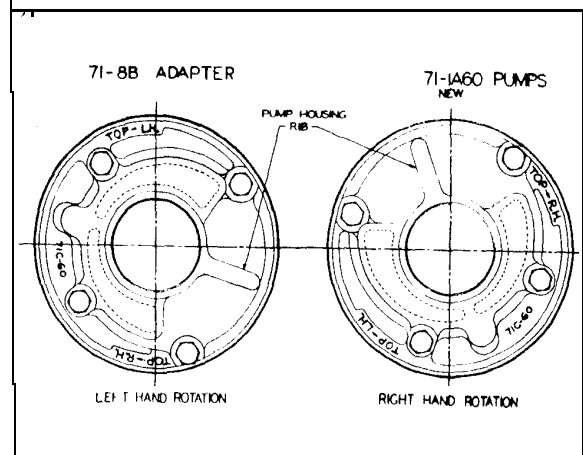

Fig. 98 Orientation Markings for New 71-1A60 Pump Assembly on 71-8B Adapter
- (b) Orientation of pump mounting bolt holes and direction of rotation arrow, depending on desired direction of input rotation, (Fig. 98 or Fig. 99).
The newer pump assembly with backing plate, identified by the rib on the pump housing, will be properly mounted when the marking on the pump housing appears as shown in (Fig. 98), when mounted on the 71-8B adapter, (Fig. 89). If the same pump were mounted on the new adapter 71C-8, (Fig. 61), the pump markings would be identical to those illustrated for the new 71C-A60 pump assembly in (Fig. 68).